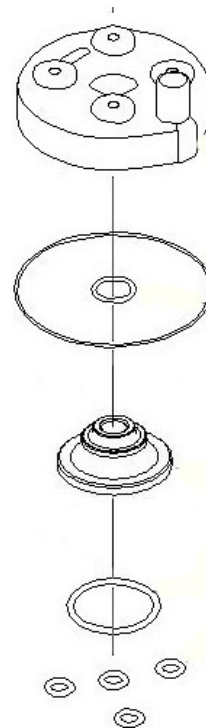

Figure 29
17. Install O-RINGS as shown in figure 29.